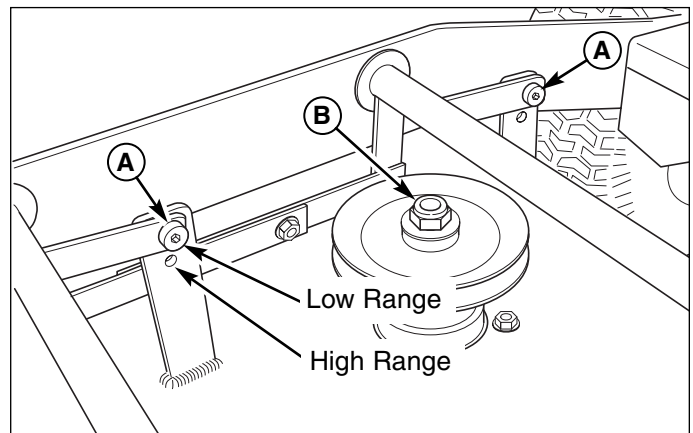

Figure 14. Pulley & Pivot Position
2. Remove the spindle nut (B, Figure 14) fastening the pulley to the spindle. Remove the pulley and key. Move the pulley spacers into the proper position in relation to the cutting range. Reinstall the pulley and key. Reinstall the nut and torque to 85-90 ft. lbs. (115-122 Nm).
3. Remove the pivot bolts and nuts (A, Figure 14) and reinstall the proper position in relation to the cutting range. Reinstall the bolts and nuts and tighten securely.